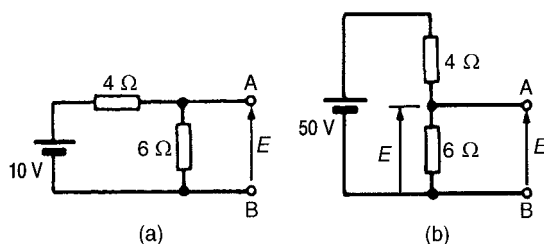

Figure 13.29
- (ii) The open-circuit voltage, E , across terminals AB in Fig. 13.29(a) is the same as the voltage across the $6\ \Omega$ resistor. The circuit may be redrawn as shown in Fig. 13.29(b)